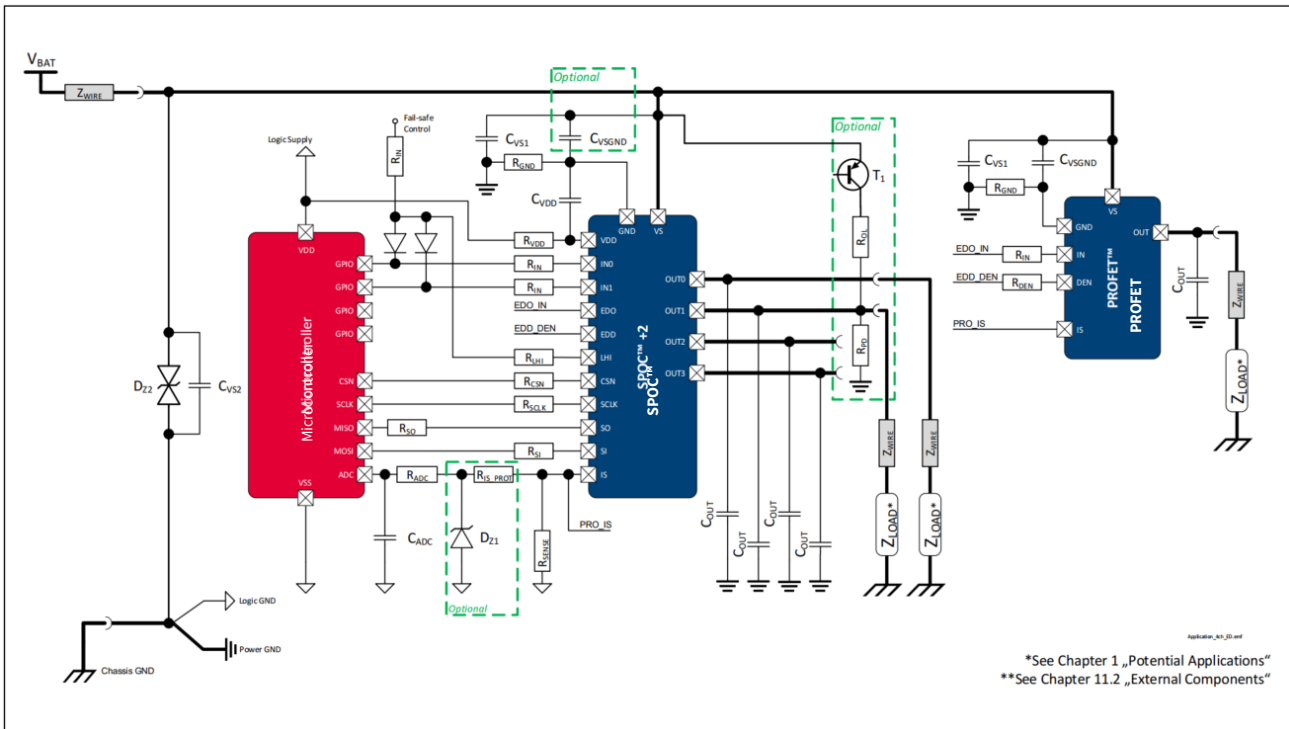

Figure 46 Application Diagram
1.10 , 2021-03-23	General: Datasheet quality improved General: updated (ReverSave™ → ReverseON) General: updated (channel description) Icon “PRO-SIL™ ISO 26262-ready” added to front page Chapter 1 updated (Package description) Chapter 1 updated (Potential Applications updated and Product Validation added) Harmonization of Application Diagram (Figure 1 , Figure 46) P_4.4.0.4, P_4.4.0.5 updated (Typ. value and Max. value) P_6.4.0.10 updated (Note or Test Condition) P_6.4.1.5 updated (Max. value updated and footnote added) P_6.5.30.2 added P_9.6.0.6 updated parameter name P_9.6.0.17 added P_9.6.2.11 footnote removed Figure 14 and Figure 16 updated Figure 28 and Figure 29 updated Figure 33 updated Figure 37 and Figure 38 updated Chapter 10.4 typical value for VDD harmonized Chapter 11 updated (figures and descriptions)